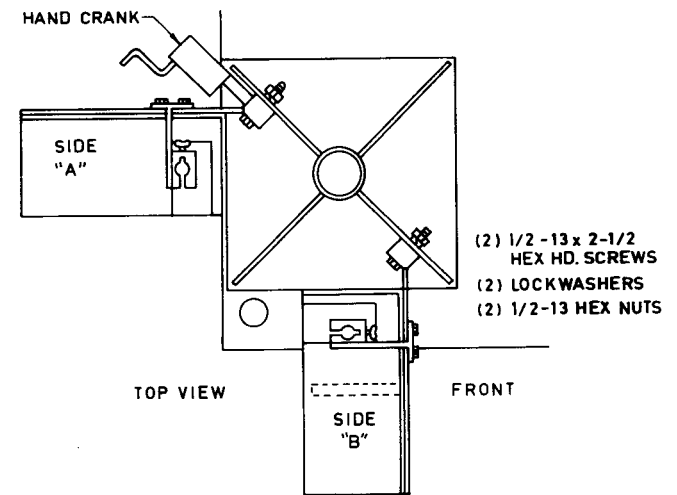

Figure 8
- B) Option N reel for right hand wire feeder (Side B). Fasten the mounting bar with the two 1/2-13 x 2-1/2 hex head bolts, lockwasher, and nuts supplied as shown in Figure 8 below. Tighten the bolts securely.